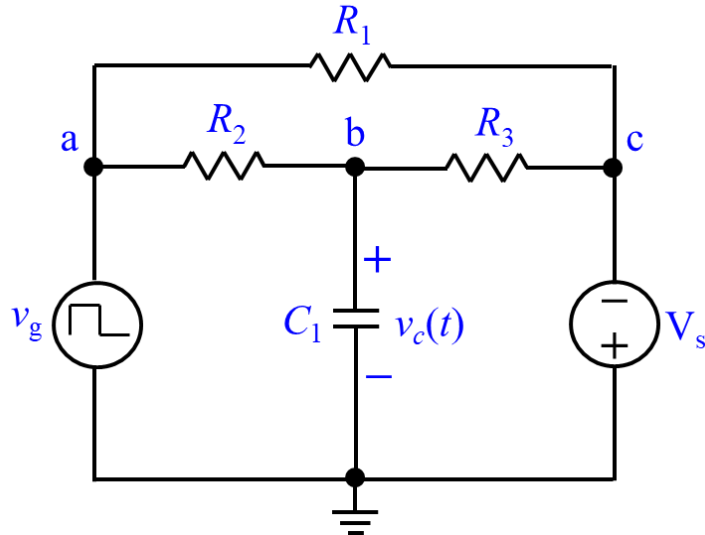

Figure 6 – Step Response of an RC Circuit
In **Figure 6**, v_g functions as a software switch: when $t < 0$, $v_g = 0V$; when $t \geq 0$, $v_g = V_p$. The step response of the voltage $v_c(t)$ is:
- a. Derive the step response $v_c(t)$ of the RC circuit in **Figure 6**.
2. Build the RC circuit in **Figure 6** with R_1 , R_2 , R_3 , and $V_s = 0.5V$.